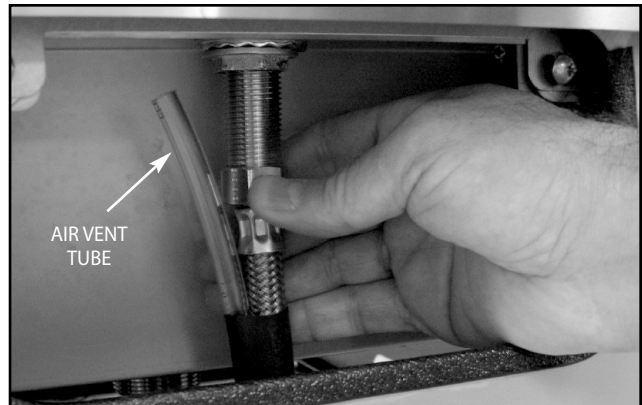

Fig. 37
7. Feed the 3-foot water supply hose/air vent tube through the hole at the bottom of the burner box, and attach it to the faucet (Fig. 37).